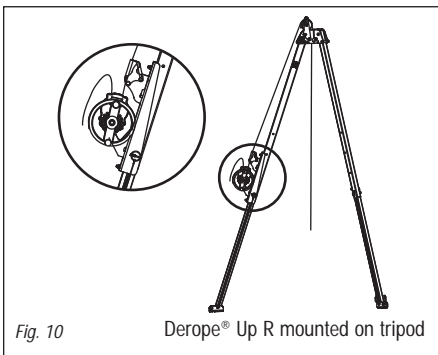

Fig. 10 Derope® Up R mounted on tripod
- 4.3.1 The Derope® Up R descent device must be attached to one of the legs of a Tracpode™ positioning tripod from Tractel® Ltd. as shown on *Figure 10*. Any other form of attachment to the Tracpode™ positioning tripod is prohibited.
Caution with respect to assembly direction: the rope blocking device must be pointing towards the top of the Tracpode™ tripod (*Figure 10*).